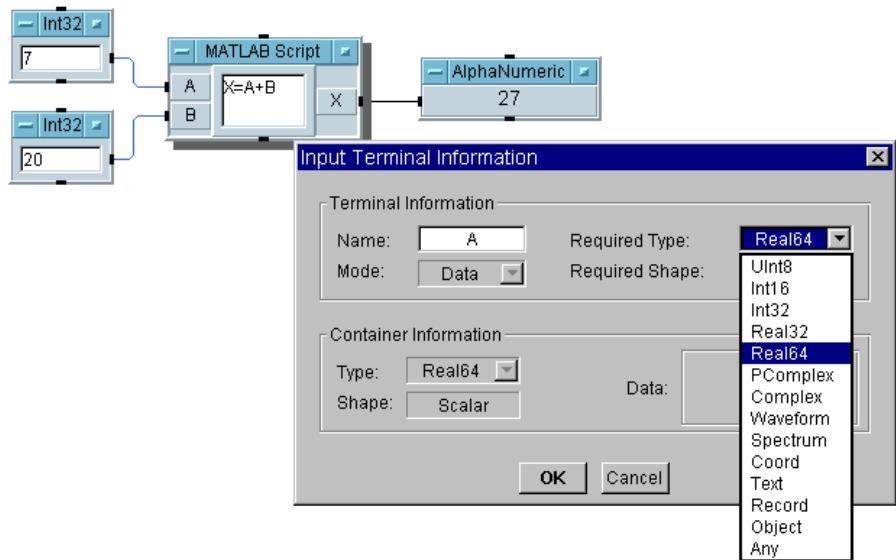

Figure 4-13. Changing Input Terminal Data Type
5. Double-click on terminal **A** to open the **Input Terminal Information** dialog box. Click on **Required Type:** to display the drop-down menu, select **Real64**, and click **OK**. Double-click on terminal **B** and change it to a **Real64** as well, as shown in Figure 4-13.